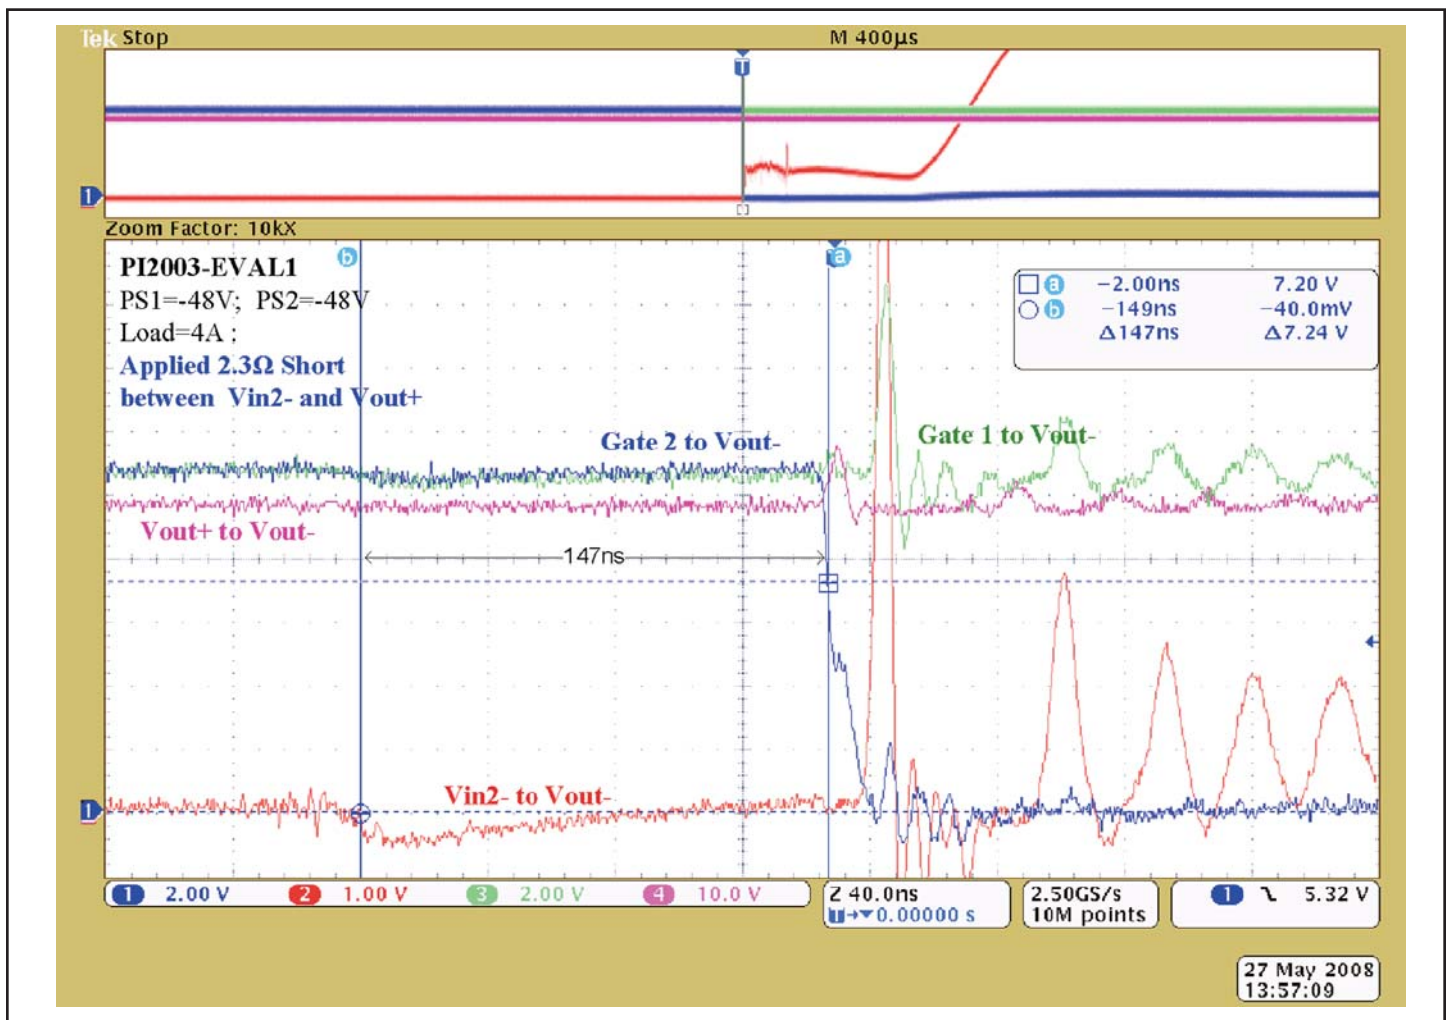

Figure 5 – Plot of PI2003 response time to reverse current detection
- 4.1 Apply a short at one of the inputs (Vin1 or Vin2). The short can be applied electronically using a MOSFET connected between low side off the source (Vin1- or Vin2-) and the return (Vin1+ or Vin2+) or simply by connecting Vin- to the return. Measure the response time between when the short is applied and the MOSFET Gate turns off. An example for PI2003 response time to an input short circuit is shown in Figure 5.